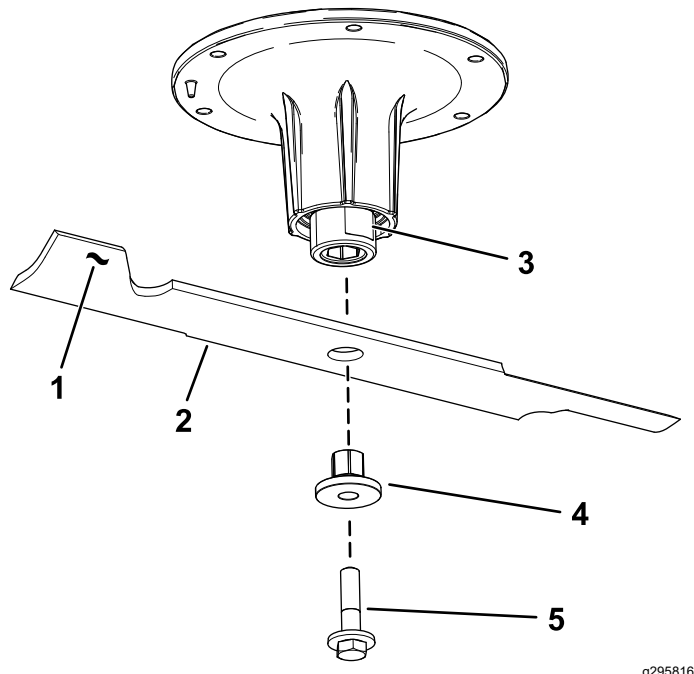

Figure 89
2. Remove the blade bolt, bushing, and blade from the spindle shaft (Figure 89).